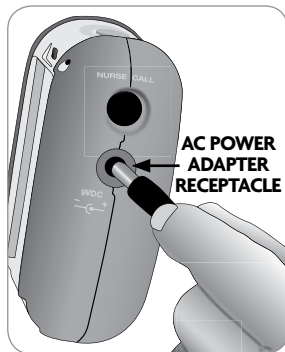

Fig. 9
1. Connect the AC power adapter to the KeepSafe Deluxe (fig. 9).